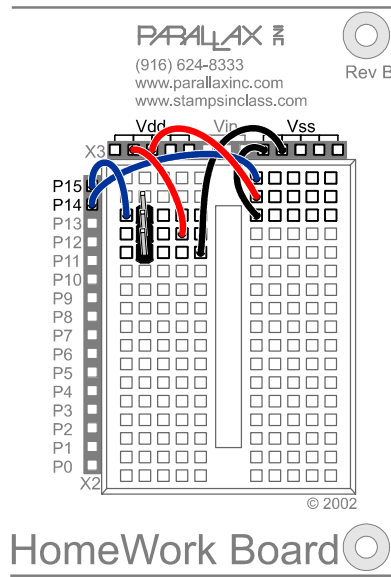

Figure 2-10
- ✓ Build the breadboard connections as shown in Figure 2-10.